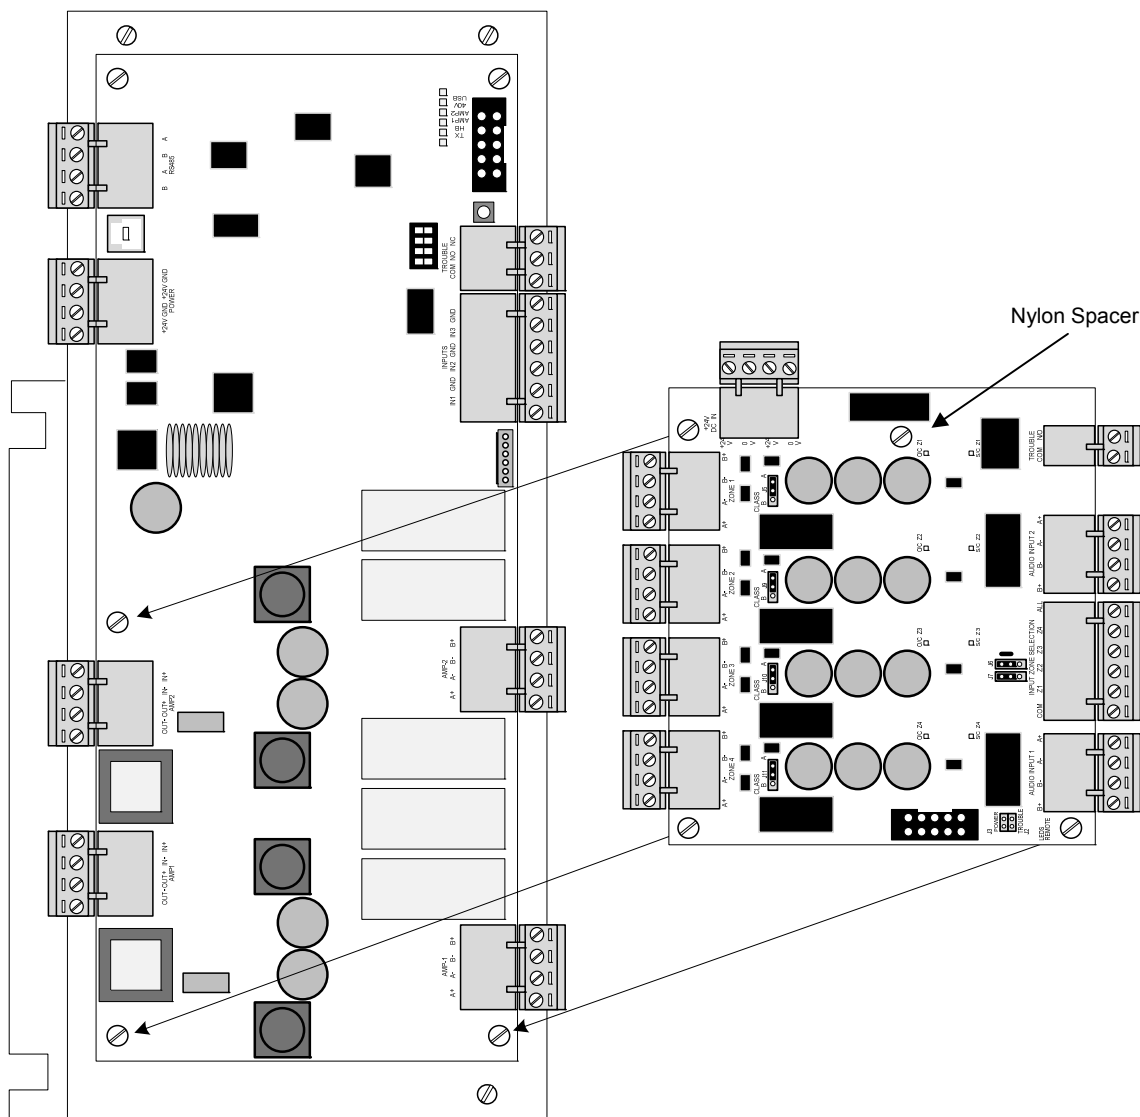

Figure 25 – AV-ZS to AV-AMP-80 Mounting
The AV-ZS audio zone splitter module is supplied with three (3) metal hexagon spacers and one (1) nylon spacer. Remove the three (3) lower screws securing the AV-AMP-80 module to its mounting plate and install the three (3) provided metal hexagon spacers. Install the provided nylon spacer into the fourth mounting hole on the AV-ZS module as indicated in figure 25.
Mount the AV-ZS audio zone splitter module above the AV-AMP-80 audio amplifier module to the three (3) previously installed metal hexagon spacers and secure with the previously removed screws (see figure 25).